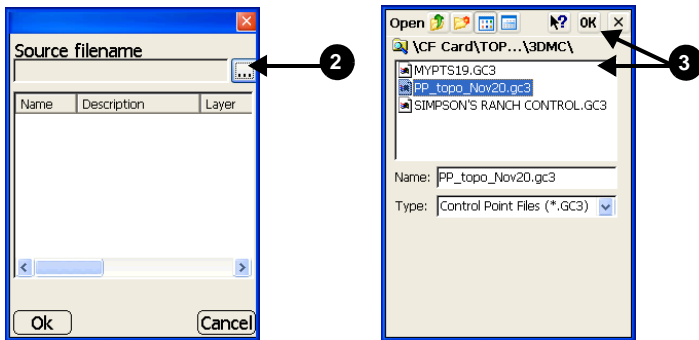

Figure 3-20. Navigate to and Select File – Control Point File Example
2. Press the **browse (...)** button to navigate to and select a file from which to import points/control points (Figure 3-20 on page 3-13). Points are stored in \*.pt3 files; control points are stored in \*.gc3 files. The default folder for Pocket-3D data files is "CF CARD\Topcon\3DMC".
3. Select the file and tap **Ok** (Figure 3-20 on page 3-13).